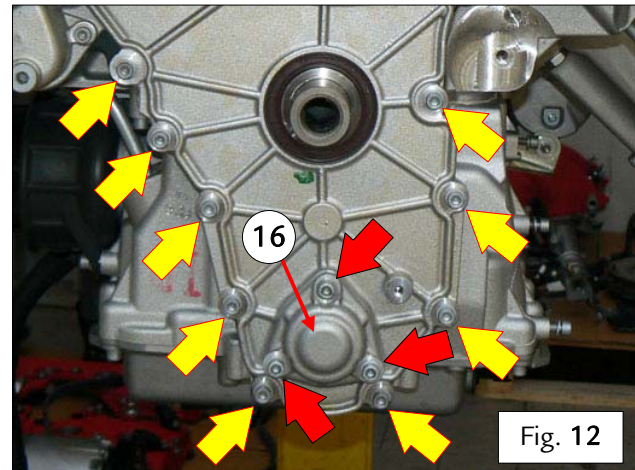

Fig. 12
2B.40 Undo the screws marked by red arrows and remove the cover (16) – Fig. 12.
2B.41 Undo the indicated screws – Fig. 12.